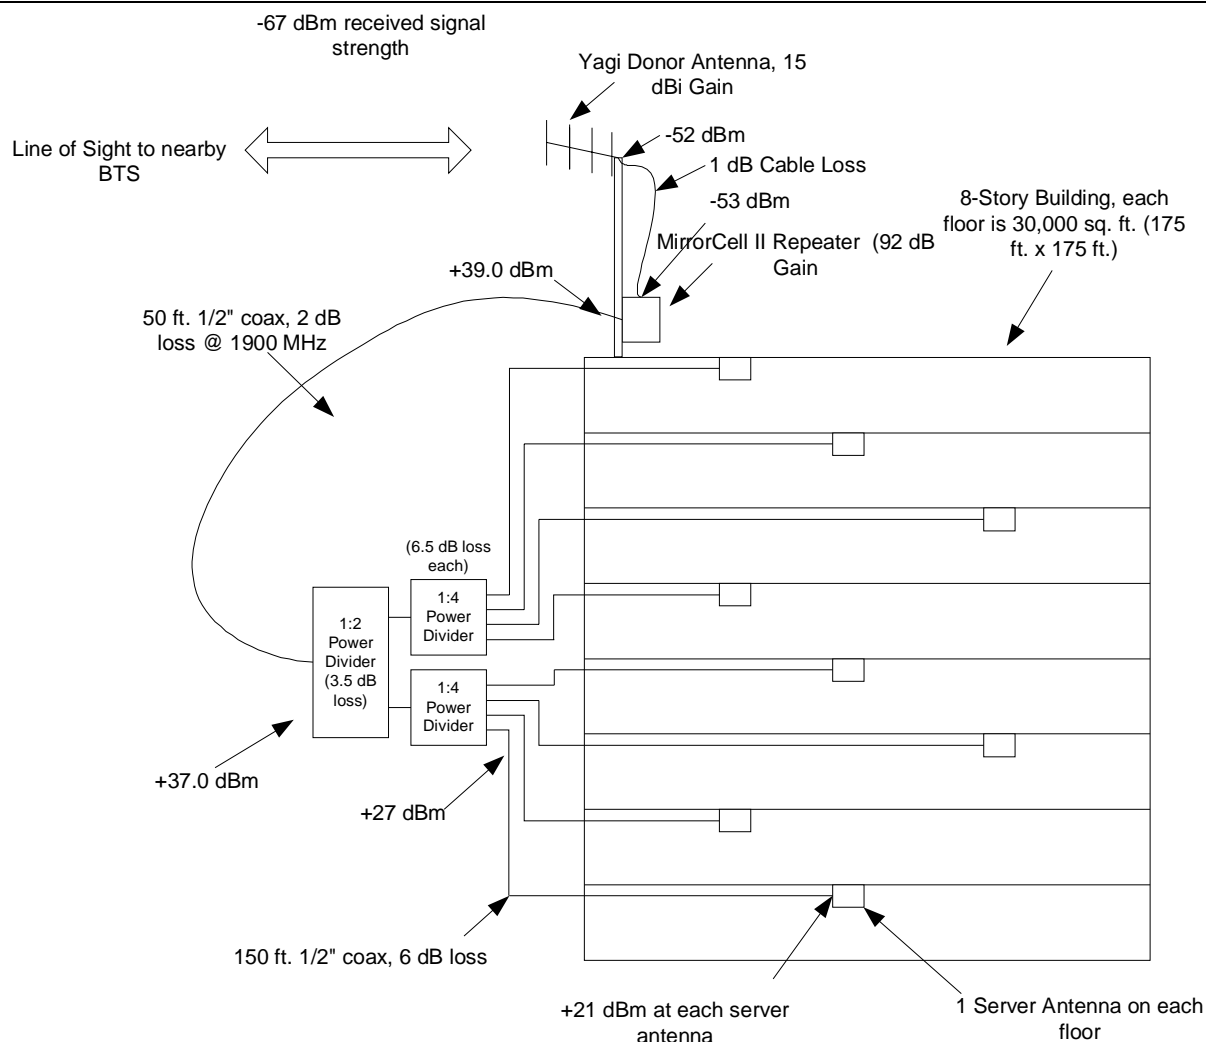

Figure 3: MirrorCell® II Indoor Installation Example
- Figure 3: MirrorCell® II Indoor Installation Example
An alternate use of this repeater is for indoor applications. The MirrorCell® II makes great economic sense for buildings that are too large for the EkoMini repeater, but too small to justify a fiber optic DAS (Distributed Antenna System). One MirrorCell II can cover most typical buildings up to approximately 200,000 square feet using ½" coax and several power dividers feeding approximately eight indoor server antennas. Figure 3 shows a typical example. Also, directional couplers with varying levels of coupling values may be used to tailor the power delivered to each building floor for optimal coverage.